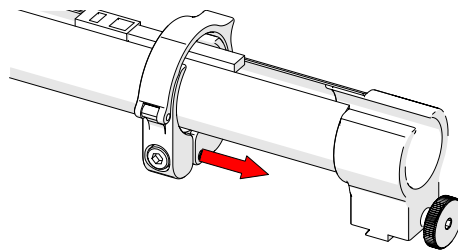

Fig. 89 - Slide clamp onto mount
3. Slide the clamp over the sleeving and cable management dovetail mount, pinching the sleeving in between (*Fig. 89*).